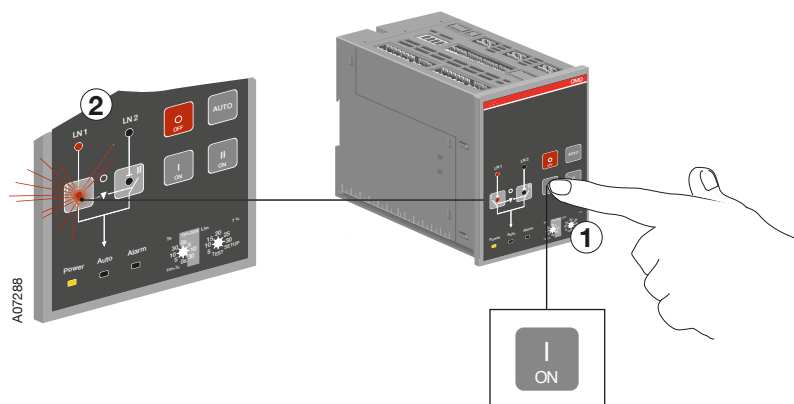

Figure 6.2 Selecting the switch to operate, the switch status and the chosen line indication with LEDs in OMD200 or OMD300
- When pushing the I-key (see the Figure 6.2/①, the I-switch will be in the ON position (the status and the line indication, see the Figure 6.2/② and the II-switch will be in the OFF position. If the I-switch is already in the ON position, pushing the I-key does not have any influence.